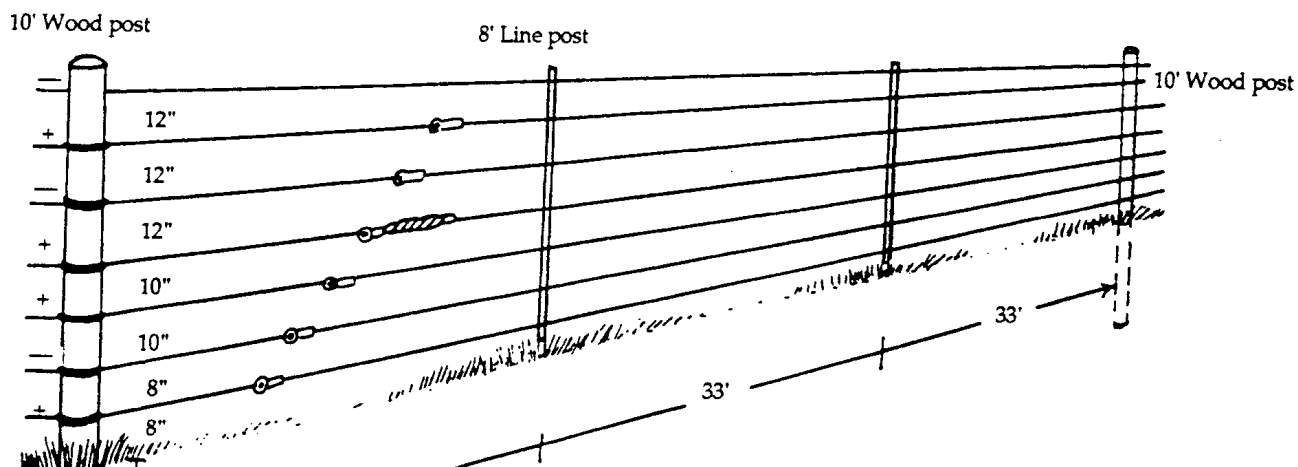

Figure 1. Electric Fences are a practical way to exclude deer and elk from high value crops of pastures.
- See Figure 1 for a general idea of the fence construction.